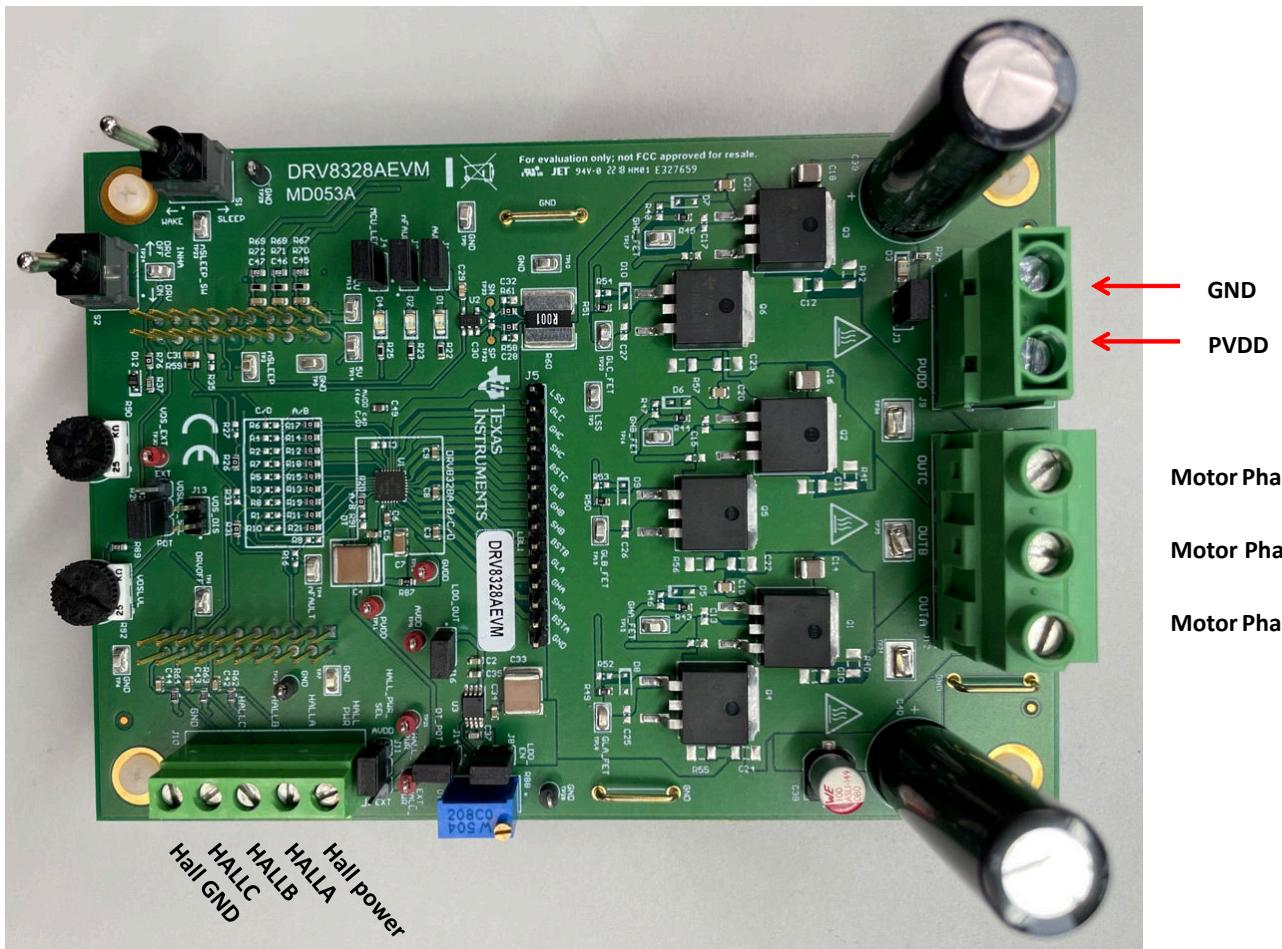

Figure 3-2. Connections from motor to DRV8328AEVM
2. Connect the motor phases to OUTA, OUTB, and OUTC in the correct order to connector J12. For sensed applications, connect the Hall sensors to the appropriate locations on the 5-pin connector J10 as shown in Figure 3-2. Select AVDD or EXT on jumper J11 to choose the Hall power source voltage.
Figure 3-2 shows the power supply and motor connections made to the DRV8328AEVM in order to spin a 3-phase sensored or sensorless Brushless-DC motor.